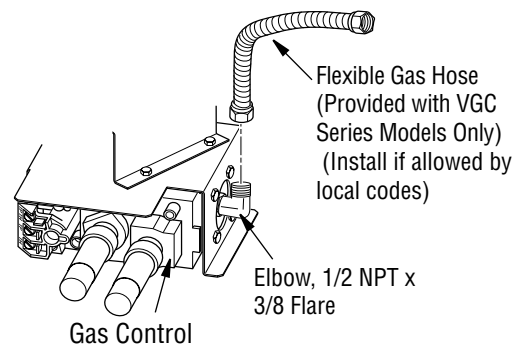

Figure 9 - Attaching Flexible Gas Hose to Appliance Gas Regulator
1. Apply pipe joint sealant lightly to male threads of the 1/2 NPT side of gas fitting elbow (provided) and connect to inlet side of gas control. Remove gas fitting from flexible gas hose (provided) before connecting to elbow (see *Figure 9*).
4. Disconnect gas line from appliance base as shown in **Figure 9, Page 8**.